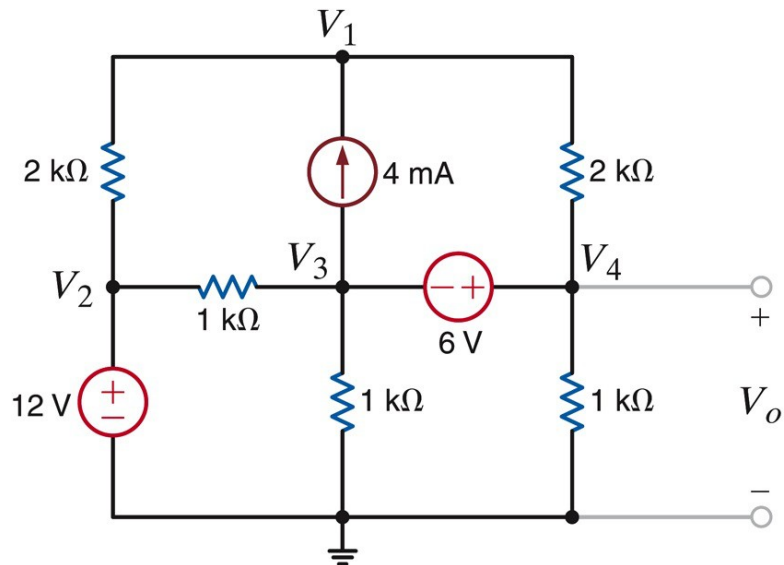

Figure 28: Circuit for Exercise 2
2. Use MultiSim to find  $V_o$  and the power supplied by the 6-V source in Fig. 28. Include a screenshot of the schematic. Also include the power calculations in your report.